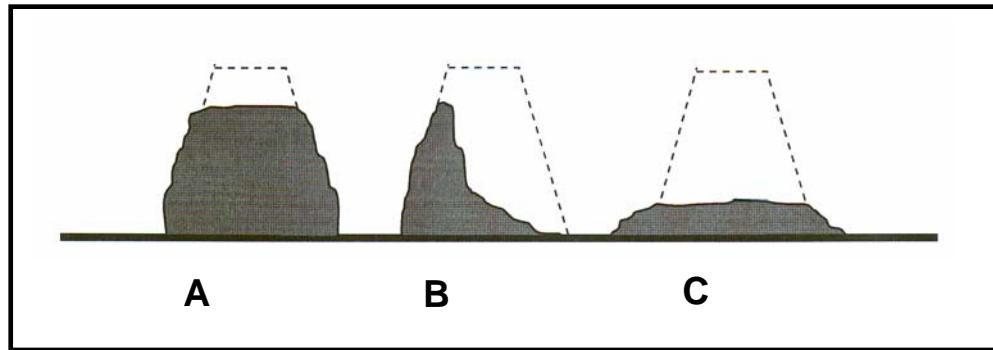

FIGURE 4.3.2
4.3.2 FIGURE 4.3.2 below shows the outcomes of three slump tests. Analyse the drawings and identify the type of slump in **A**, **B** and **C**.